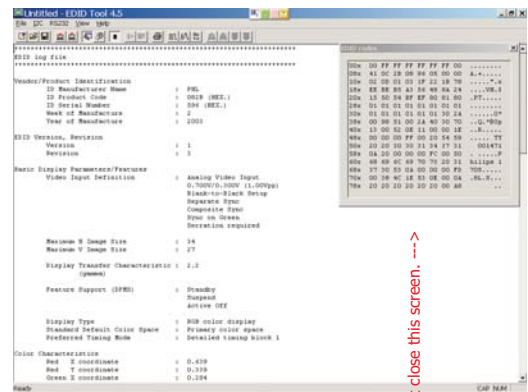

Fig. 9
4. Click icon (Read EDID function) to read DDC EDID data from monitor. The EDID codes will display on screen as shown in Fig.9